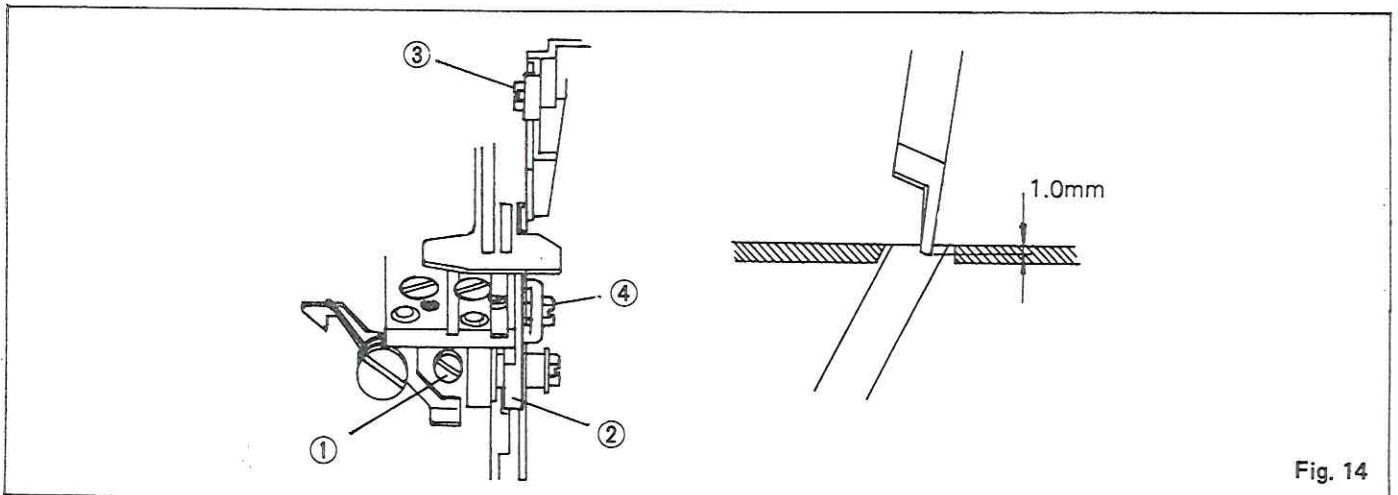

Fig. 14
(1) Upper Knife Replacement Fig. 14
- Loosen Screw ① and push Lower Knife Holder ② to the left then slightly tighten Screw ①.
- Remove Screw ③ and old Upper Knife.
- Slightly tighten Screw ③ with new Upper Knife.
- Rotate the pulley for the Upper Knife is in the lowest position, adjust the Upper Knife to overlap the Lower Knife about 0.5 – 1.0mm. Or the gap A of two knives is about 0 – 1.0mm when the upper Knife is in the highest position, then tighten Screw ③.
- Loosen Screw ① for returning the Lower Knife Holder to the original position. Then test the cutting of Knives.
Cambio de la cuchilla superior. Fig. 14
Remplacement du couteau supérieur Fig. 14
(2) Lower Knife Replacement Fig. 14
- Remove Screw ④ and replace new Lower Knife.
- Slightly tighten Screw ④ with new Lower Knife.
- Rotate the pulley for the Upper Knife is in the lowest position, adjust the Lower Knife to overlap the Upper Knife about 0.5 – 1.0mm. Or the gap A/of two knives is about 0 – 1.0mm when the upper Knife is in the highest position, then tighten Screw ④.
- Loosen Screw ① for returning the Lower Knife holder to the original position. Then test the cutting of Knives.
Cambio de la cuchilla inferior. Fig. 14
Remplacement du couteau inférieur Fig. 14